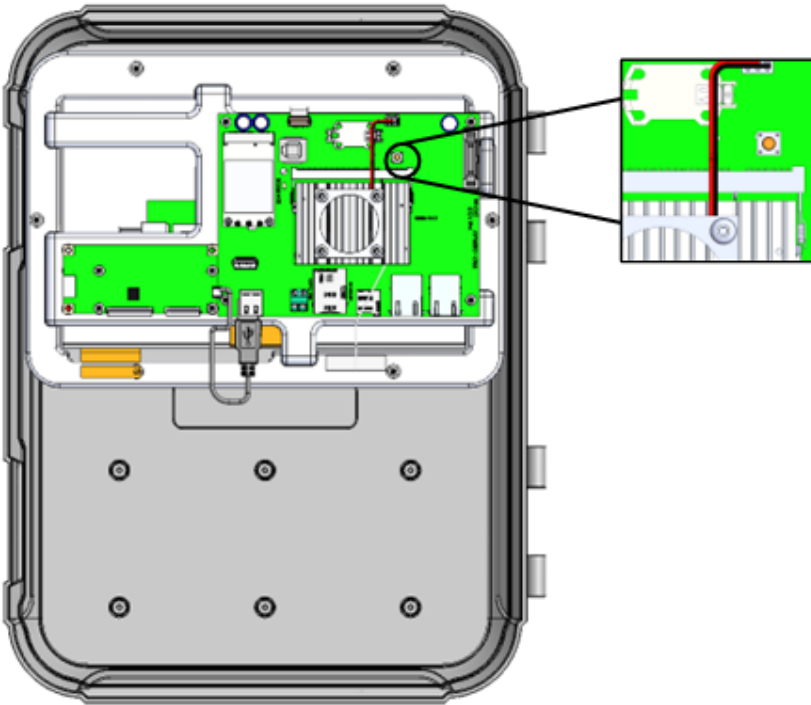

Figure 2: CPU Reset Button
- To reset the CPU and the user interface, press the button shown in Figure 2: CPU Reset Button.